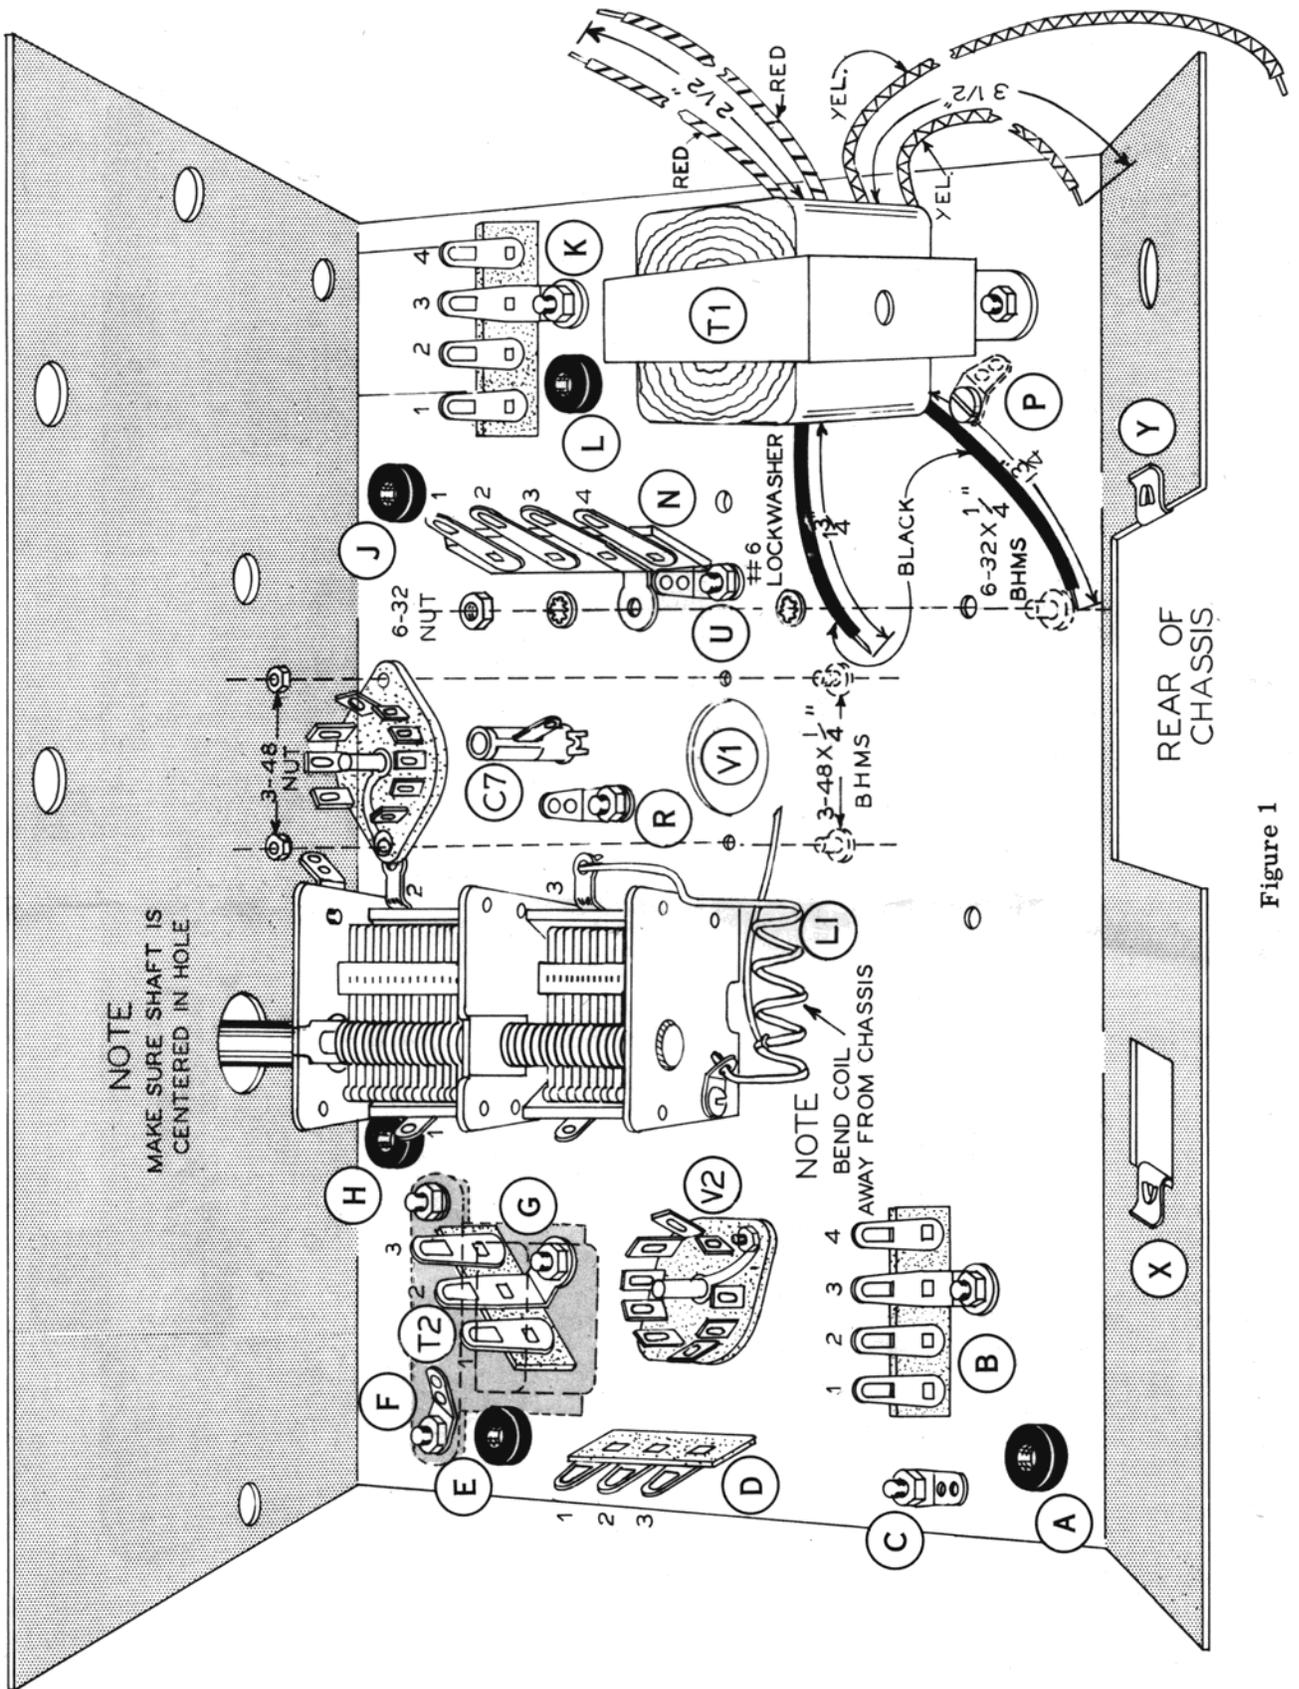

Figure 1
- () Orient the chassis as shown in Figure 1. Install the five rubber grommets A, E, H, J and L.
- () Mount the tube socket V1 as shown in Figures 1 and 2, using 3-48 hardware.